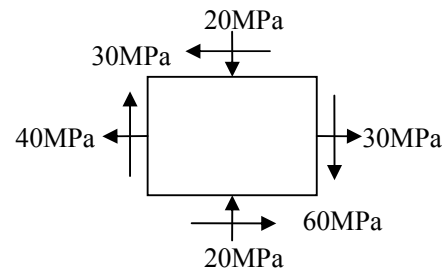

Fig. 11 [Q-7(b)]
- (b) For the state of stress as shown in **figure 11** determine location of principal planes, principal stresses and maximum shear stress.